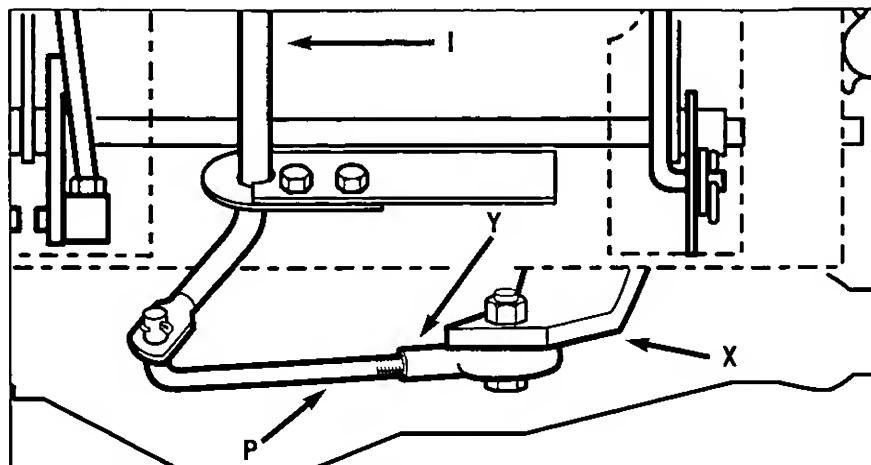

Figure 5-15: Transmission neutral (N) adjustment.
4. Remove cotter pin securing shift link (P, Figure 5-15) to shift rod (I).
5. Move shift arm (X) back and forth as necessary into each detent until transmission is in neutral.